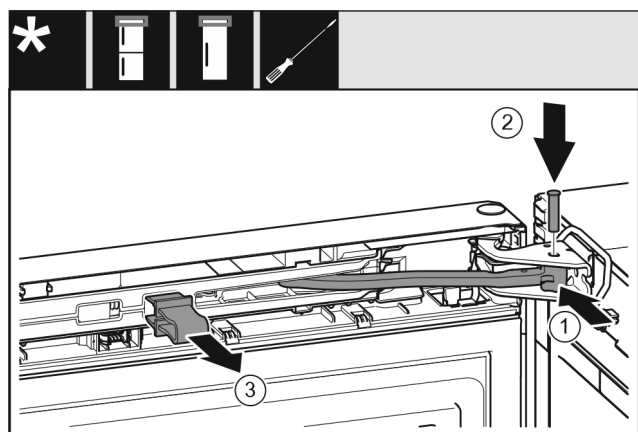

Fig. 50
- ▶ Turn the joint Fig. 50 (1) in the swap bearing block.
- ▶ Insert the pin Fig. 50 (2) into the swap bearing block and joint. In the process, make sure that the latching cam is correctly positioned in the groove.
- ▶ Remove the locking device Fig. 50 (3).